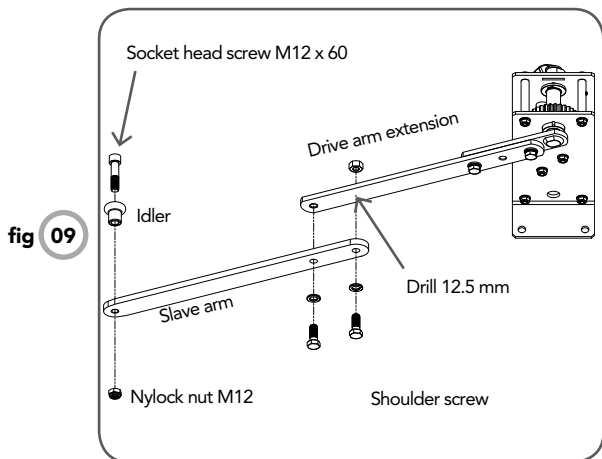

fig 09
3. Insert the other M12 screw and secure with spring washer and nut. Check that the screws are tight (**Fig. 09**)